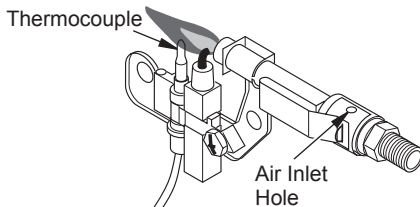

Figure 4 - Pilot
Visually inspect the pilot flame and burner periodically during use. The pilot flame should be blue in color (not yellow) and will extend beyond the thermocouple. The flame will surround the thermocouple just below the tip. See Figure 4. A slight yellow flame may occur where the pilot flame and main burner flame meet. The burner should be bright orange (with a slight blue color around the border, a red-orange haze that is visible on the ceramic tile is acceptable) and without a noticeable flame. A blue flame that rolls out at the top of the ceramic tile indicates an accumulation of dust, lint or spider webs inside the casing assembly and main burner assembly. If the pilot is yellow or the burner has a noticeable flame, cleaning may be required. Use the following procedure to inspect the casing assembly and main burner assembly.
4. Remove (1) burner assembly retaining screw from bottom of the heater.
8. Inspect and clean pilot (mounted to bracket) by using a vacuum or apply air pressure through the air holes in the pilot (see Figure 4, page 8).